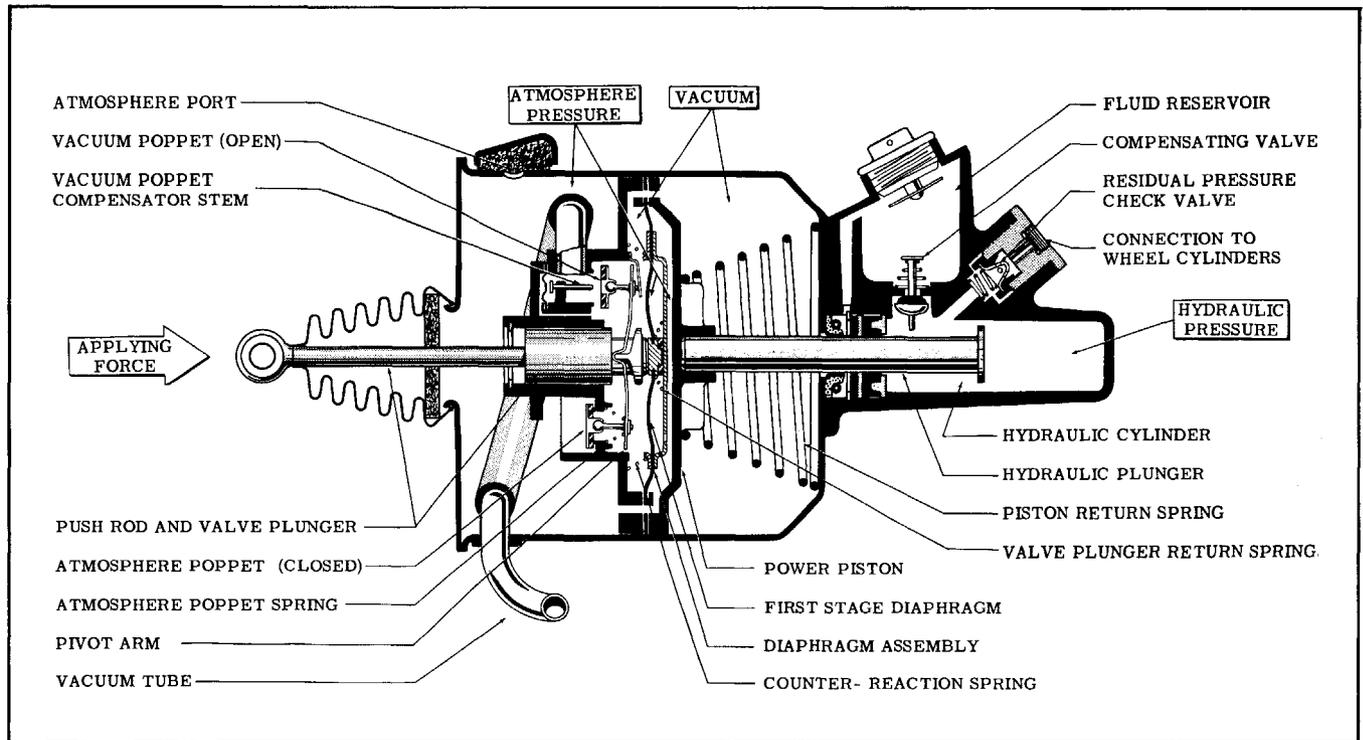

Fig. 5-15 Power Brake in Applying Position
#### APPLYING (FIG. 5-15)
**FULLY APPLIED POSITION (FIG. 5-15)**